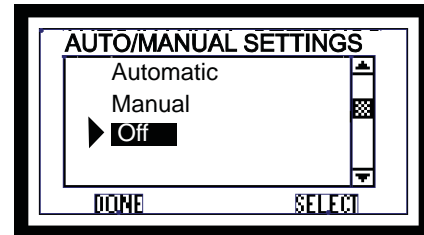

Figure 22.1
1. Set wall control to OFF on AUTOMATIC / MANUAL SETTING screen. **Figure 22.1.**
After servicing, restart with the AUTO/MANUAL SETTINGS screen. **Figure 22.1.**